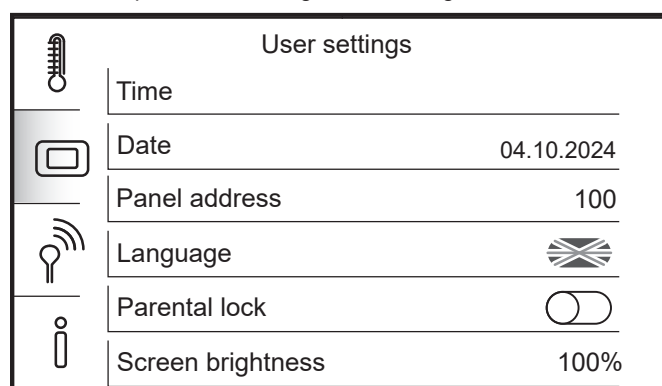

Figure H-2: User settings menu
2. Then tap the User settings. Refer to Figure H-2.